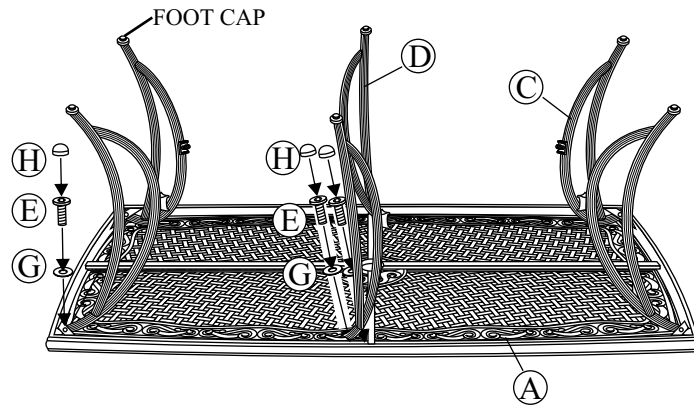

Fig.1
- 1 Working from behind the chair, have another person stand in front of the chair and position the sling seat frame in between the arms of the seat base as shown in **Fig.1** so that the holes on both sides of the upper portion of the seat frame back align with the fixed nut holes in the seat base.
- 1 Place the table top upside down on a flat, non-abrasive surface. Attach a side leg to the table top by using a 1/4"x20 mm bolt and a washer as shown in the Fig.1. Place the leg beneath the table rim corner bracket. Guide the bolt through the hole in the table rim corner bracket and into the pre-drilled hole in the side leg. Hand tighten only. **Do not tighten completely.** Some adjustments may be necessary to ensure proper alignment of the table legs. Repeat for the other three side legs. Attach the middle leg using the 1/4"x20 mm bolts and washers as shown in the Fig.1. Hand tighten only. **Do not tighten completely.** Repeat for the other middle leg.